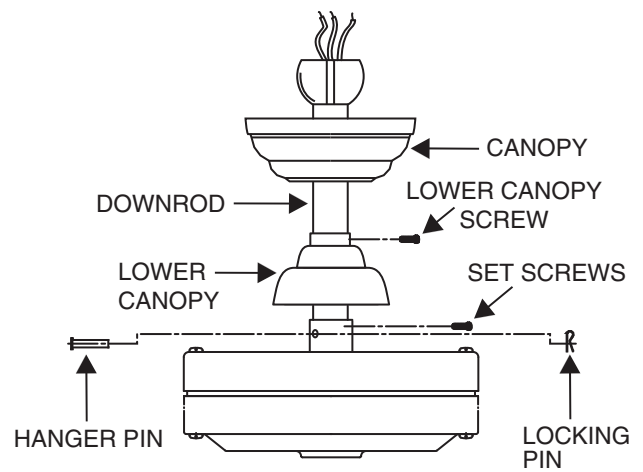

FIGURE 6
4. Route wires exiting from the top of the fan motor through the lower canopy, canopy cover and canopy, then through the ball / downrod. (Fig. 6)
5. Align the holes at the bottom of the downrod with the holes in the collar on top of the motor housing (Fig.6). Carefully insert the hanger pin through the holes in the collar and downrod. Be careful not to jam the pin against the wiring inside the downrod. Insert the locking pin through the hole near the end of the hanger pin until it snaps into its locked position, as noted in the circle inset of Fig. 6.
6. Tighten two set screws on top of the fan motor firmly. (Fig. 6)
7. Slide lower canopy down on top of the motor housing. Tighten lower canopy screw. (Fig. 6)